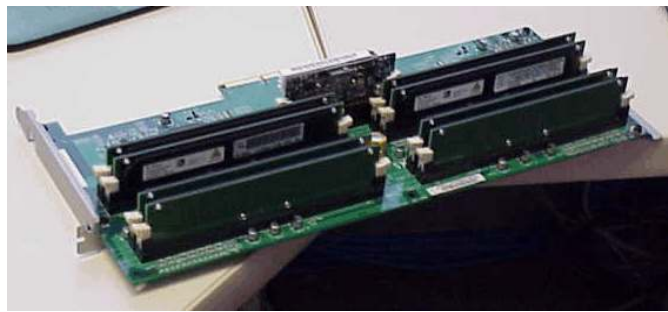

Figure 4
- e. Remove the memory card from the computer (Figure 4).